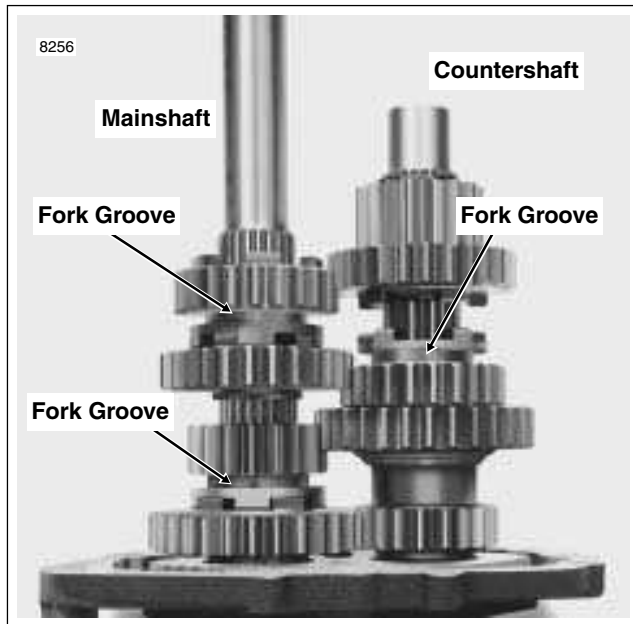

Figure 7-9. Shifter Fork Groove Locations
1. See upper frame of Figure 7-8. Find the shifter fork with the centered pin. Holding the fork so that the pin is positioned at the rear of the transmission case, install the fork in the countershaft gear fork groove. See Figure 7-9.